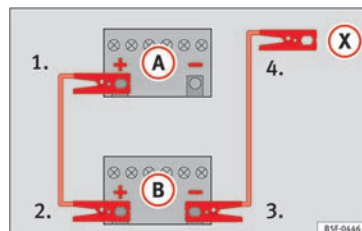

Fig. 59 Diagram of connections for vehicles without Start Stop system
2. Connect one end of the *red* jump lead to the positive (+) terminal of the vehicle with the flat battery (A) »» **Fig. 59**.
3. Connect the other end of the *red* jump lead to the positive terminal (+) in the vehicle providing assistance (B).
4. *For vehicles without Start-Stop system:* connect one end of the *black* jump lead to the negative terminal (-) of the vehicle providing the current (B) »» **Fig. 59**.